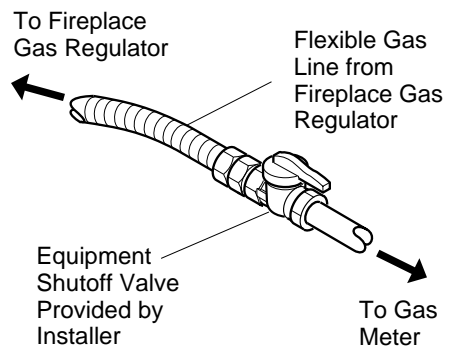

Figure 18 - Attaching Gas Lines Together
**NOTICE:** Most building codes do not permit concealed gas connections. A flexible gas line is provided to allow accessibility from the fireplace (see Figure 18). The flexible gas supply line connection to the equipment shutoff valve should be accessible.
4. Attach the flexible gas line to gas supply (see Figure 18). Check tightness of flexible gas line attached to gas regulator of fireplace (see Figure 18).